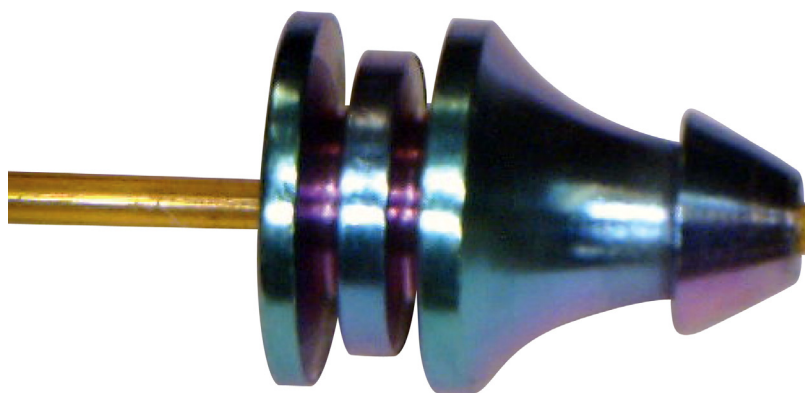

Figure 7 Properly-trimmed column and ferrule
- Using the column cutter, trim the column at the small end of the ferrule leaving approximately 0.3 mm of the column extending from the ferrule (Figure 7). The minimum size of the column head extending from the ferrule is 0.1 mm and the maximum is 0.5 mm. It is important to have 0.5 mm or less column head to prevent column conflict in the union.